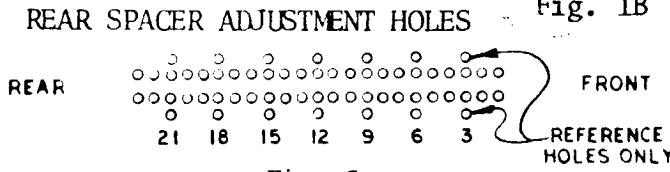

Fig. 3
- Where Rear A appears it means that the rod is installed (spring end first) in A (Hole) at rear of vend rotor-- the front end of the same rod is installed in C (Hole) at front of vend rotor. See Fig. 3 on page 3.